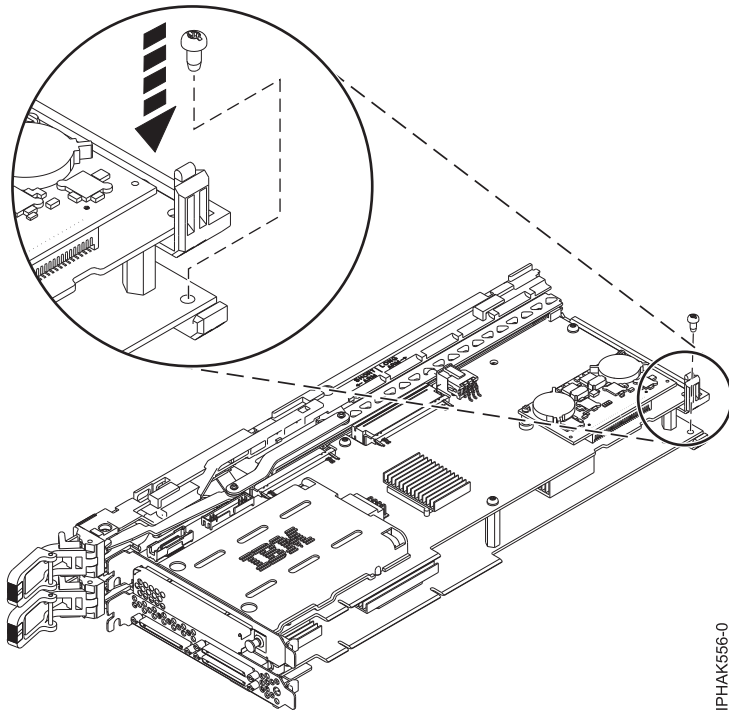

Figure 57. Securing the lower, rear arm of the cassette assembly
5. Secure the lower, rear arm of the cassette assembly to the rear end of the double-wide adapter using the small screw. See Figure 57.